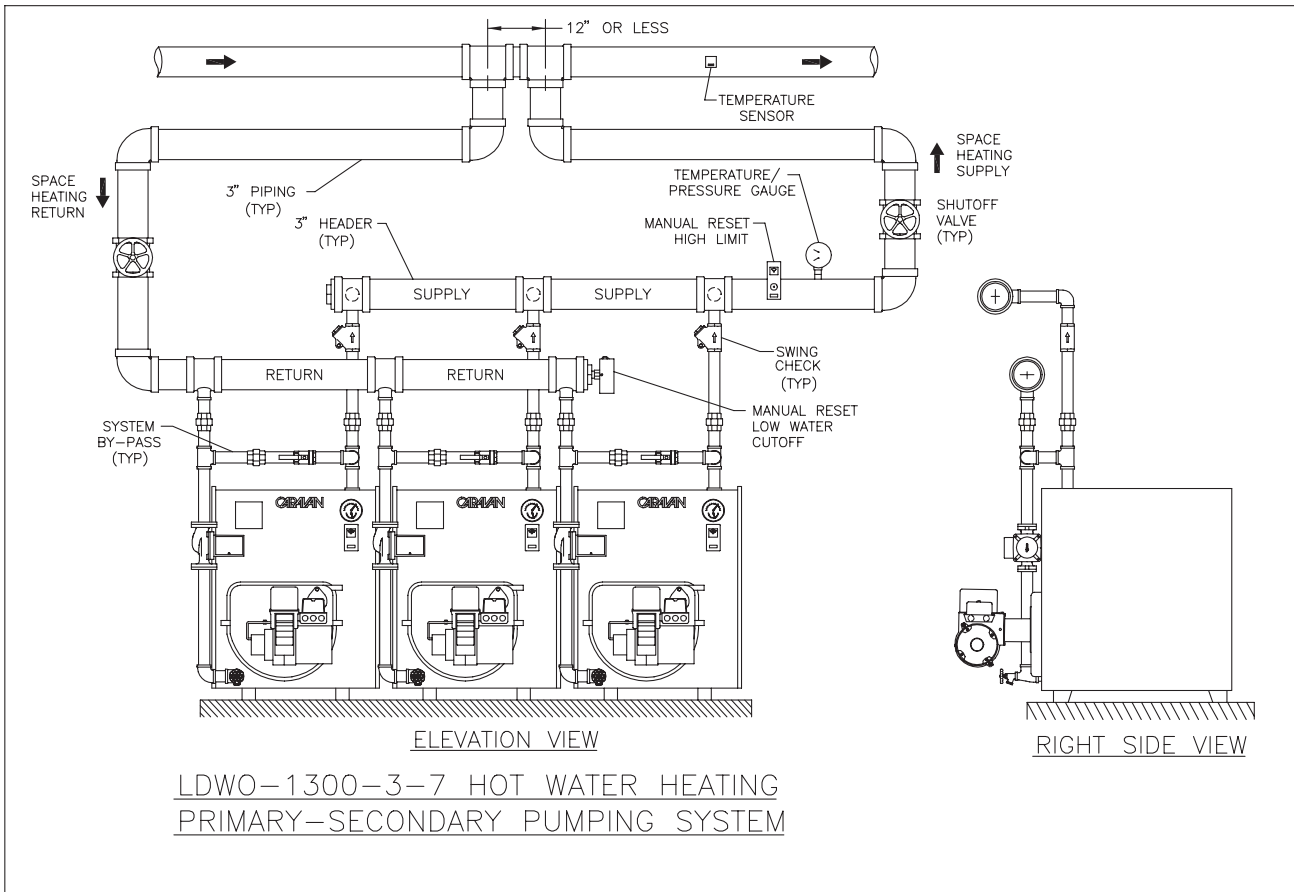

Figure 4. Primary/Secondary piping of modular boiler.
1. Primary/secondary piping may be applied to a Caravan modular boiler system as demonstrated on Figure 4. In this type of application the modular boiler is contained within the primary loop. However, this is still a modular boiler, if it has no valves between the modules.